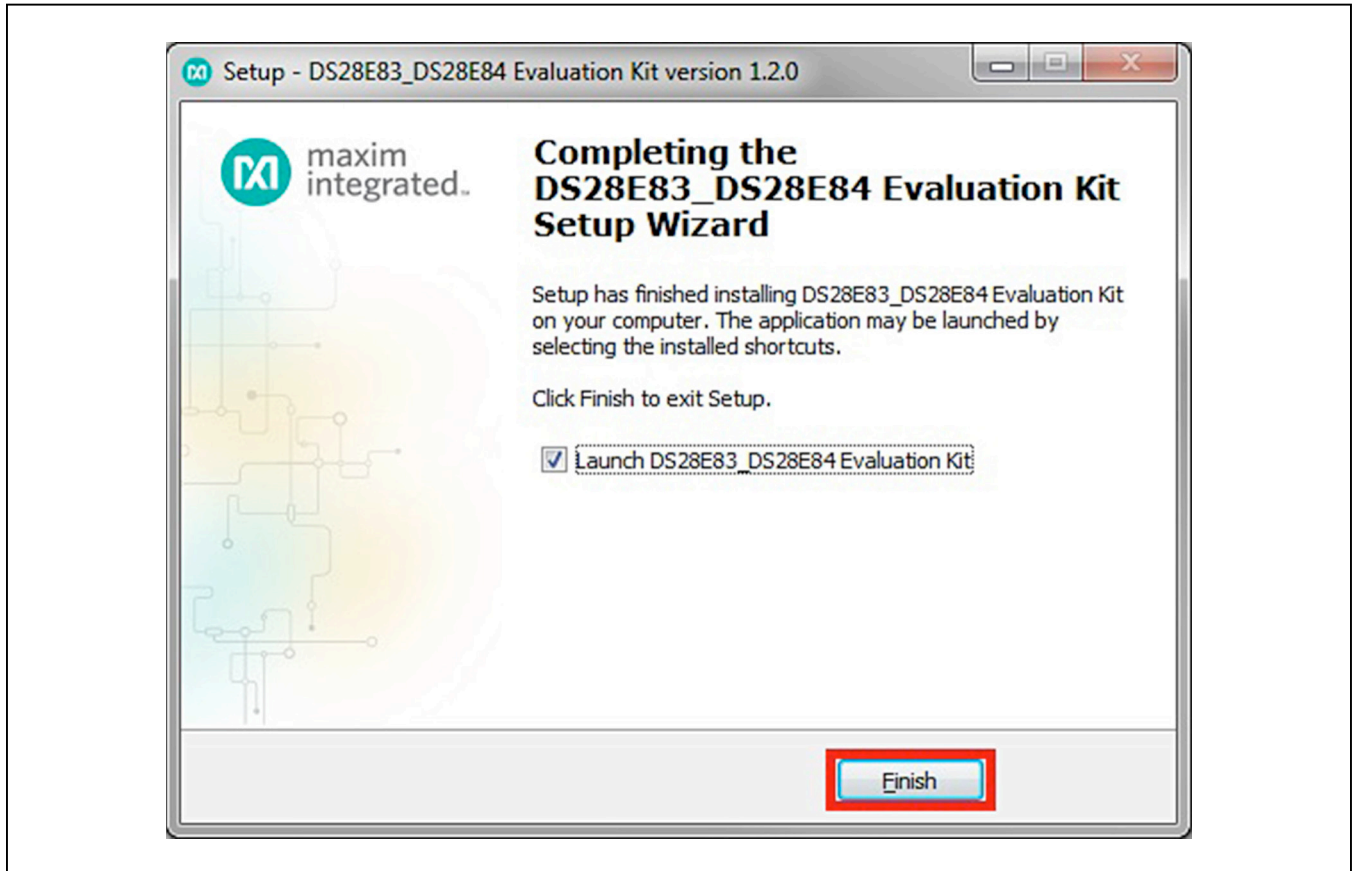

Figure 10. Software Installation Finished
11) Click on **Finish** to close the final window and confirm the software is installed correctly (Figure 10).